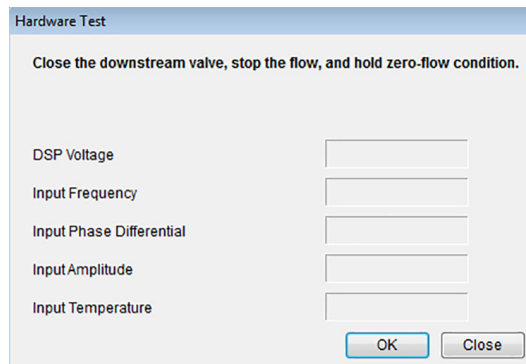

Figure 4.1—Hardware Test dialog
1. Access the *Hardware Test* dialog (Figure 4.1, page 22) by choosing **Diagnostic/Service>Test/Status>Self Diagnostics>Hardware Test**.
2. Prepare for testing the Drive Coil by following the instructions at the top of the dialog (Figure 4.1, page 22) and click **OK** to start testing.